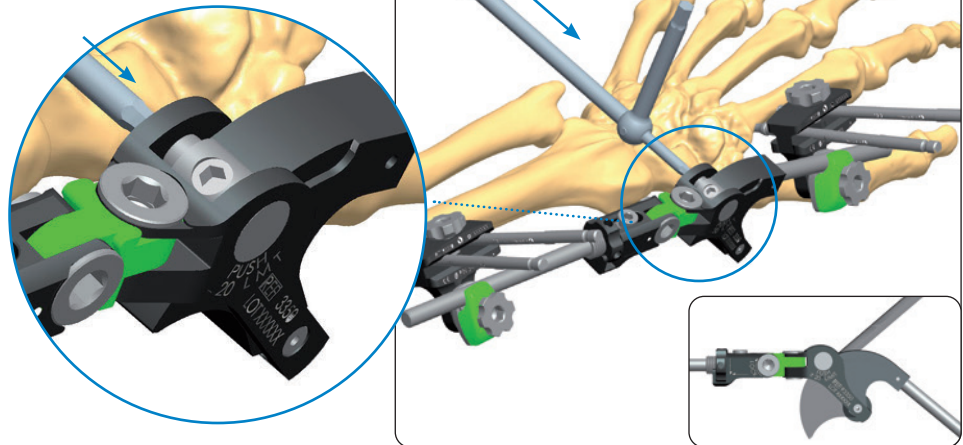

Fig. 25
- Push the the Motion Range Selector in its outer seat with the Allen Wrench to gain  $\pm 40^\circ$  of freedom (Fig. 25)